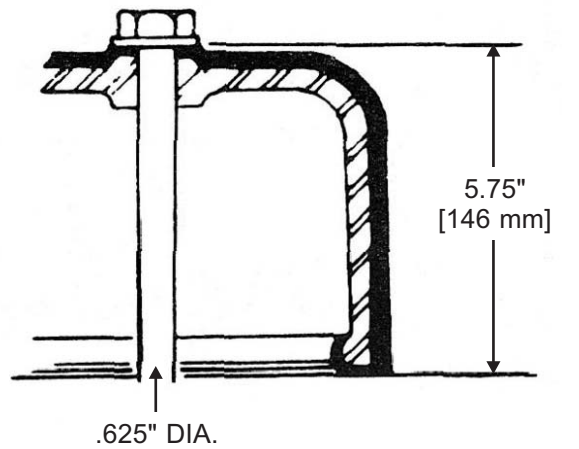

Figure 2.6 - Hold-Down Bolt
5. Install and tighten the hold-down bolts to secure machine to floor. Refer to Figure 2.6.